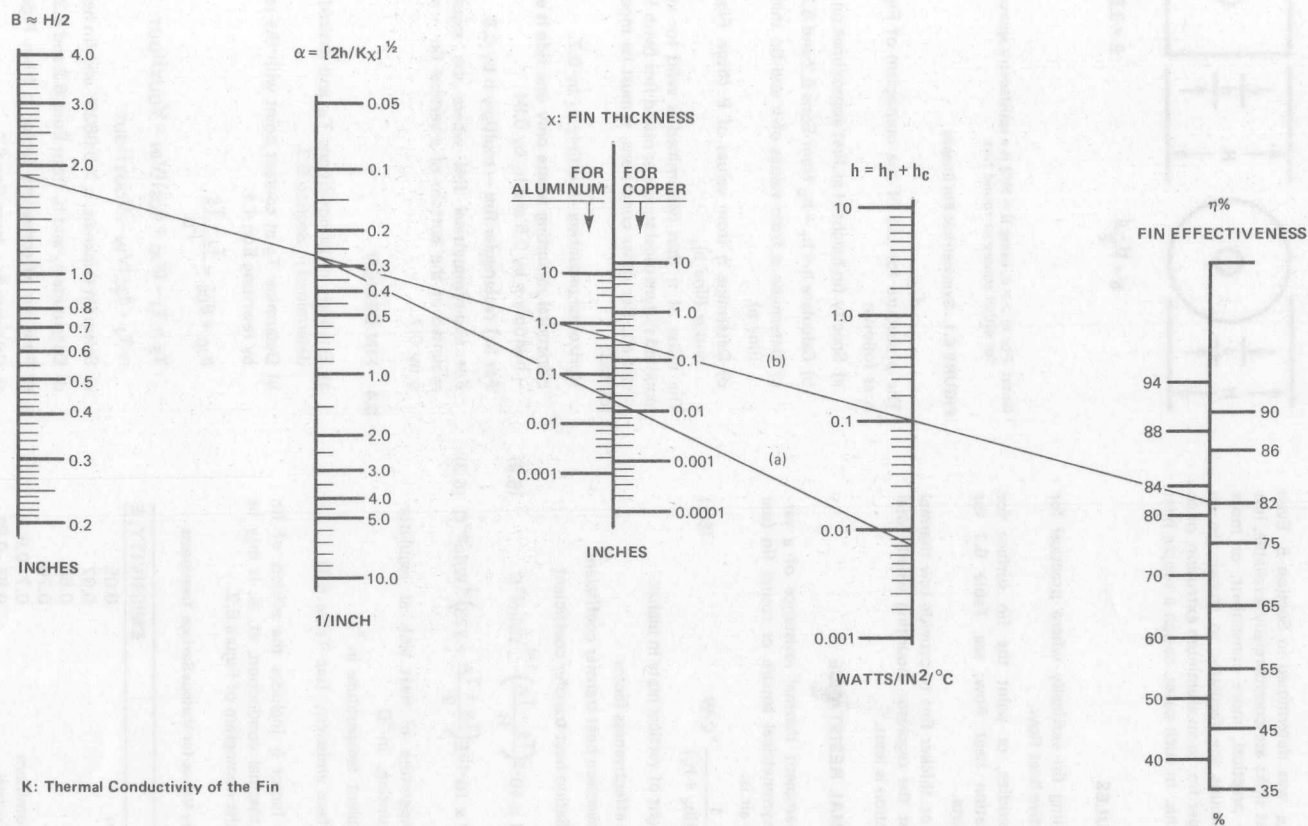

FIGURE 6.2. Fin Effectiveness Nomogram for Symmetrical, Flat, Uniformly-Thick, Vertically Mounted Fins
Fin effectiveness factor  $\eta$  includes the effects of fin thickness, shape, thermal conduction, et. al. It may be determined from the nomogram of Figure 6.2.
The procedure for use of the nomogram of Figure 6.2 is as follows:
- Find fin effectiveness factor  $\eta$  from Figure 6.2.
$$\text{e) } \eta = 0.84 \text{ from Figure 6.2.}$$
$$\text{e') } \eta = 0.75 \text{ from Figure 6.2}$$